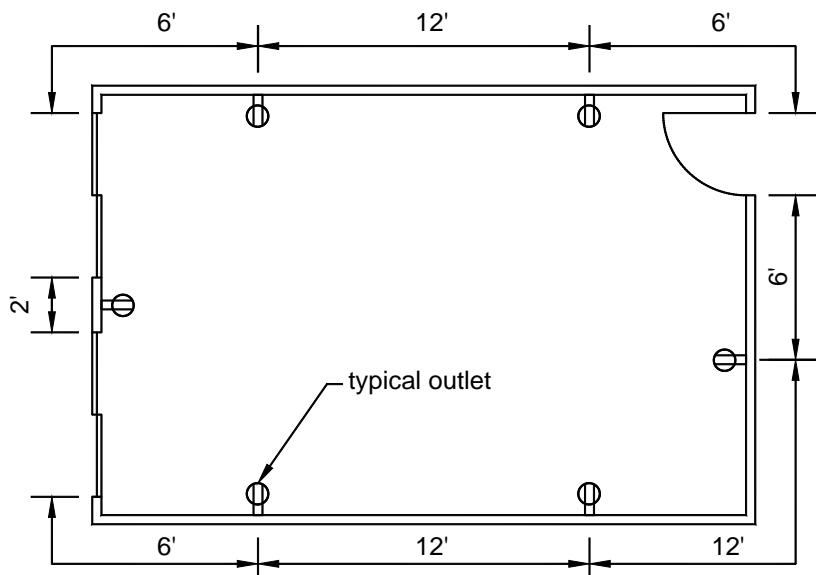

FIGURE 11: TYPICAL OUTLET DISTRIBUTION
- Receptacles shall be placed in accordance with FIGURE 11.